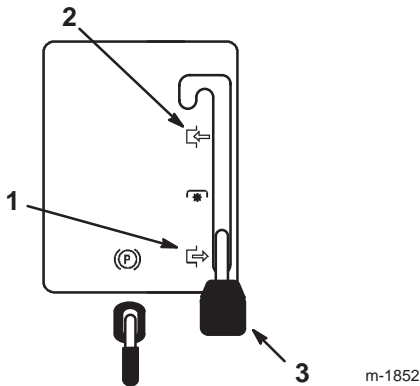

Figure 5
2. Shift the blade control (PTO) lever to Engage (Fig. 5).
2. Shift the blade control (PTO) lever to Disengage (Fig. 5).
3. Shift the blade control (PTO) lever to Disengage (Fig. 5).